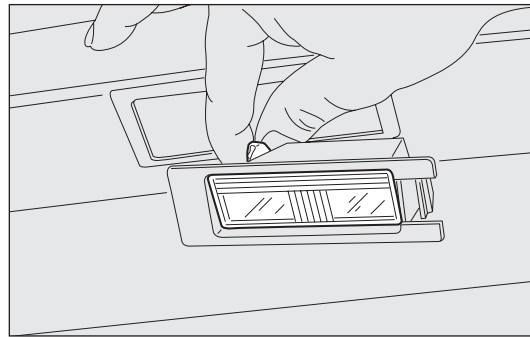

fig. 151
- ❑ change the bulb fig. 151 by releasing it from the side contacts and making sure that the new bulb is correctly fastened between these contacts;